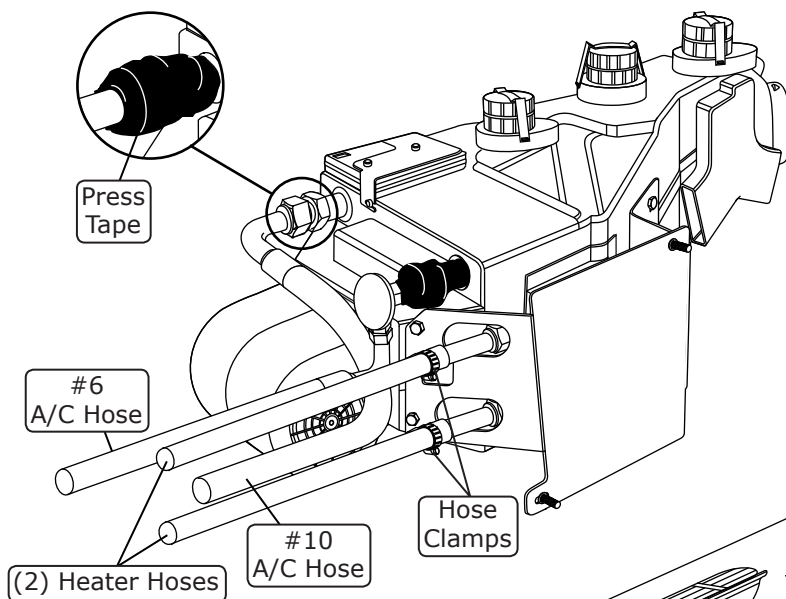
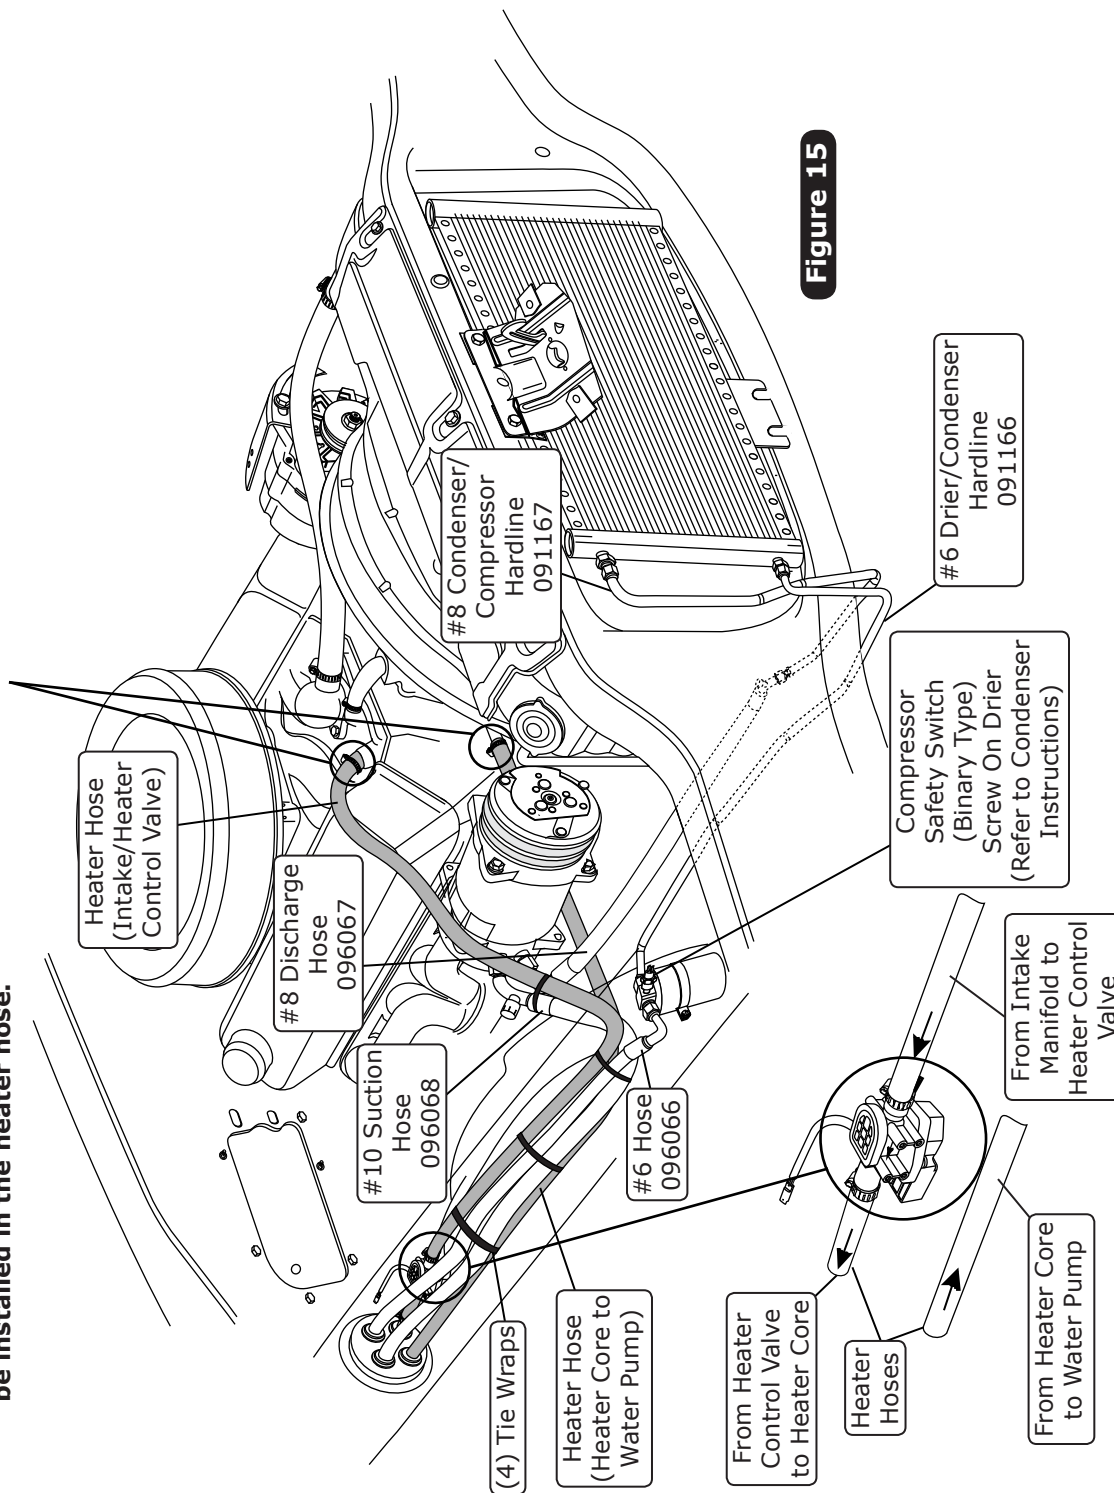

Figure 11
Figure 15
4. Place the evaporator sub case on the passenger side floorboard. Using properly lubricated O-rings, install the A/C hoses onto the evaporator (See Figure 14, Page 13, and Figure 11, Page 12). **NOTE: Wrap the #10 fitting connections with press tape (See Figure 11, Page 12).**
5. Install the heater hoses, securing them with hose clamps (See Figure 11, Page 12).
1. Locate the #8 compressor A/C hose. Lubricate (2) #8 O-rings (See Figure 14, above) and connect the 90° fitting to the #8 discharge port on the compressor. Then route the 45° fitting with 134a service port to the #8 condenser hardline coming through the core support (See Figure 15, Page 14). Tighten each fitting connection as shown in Figure 14, above.
2. Locate the #10 compressor A/C hose. Lubricate (2) #10 O-rings (See Figure 14, above) and connect the 45° fitting with 134a service port to the #10 suction port on the compressor. Then route the 90° fitting to the #10 fitting on the evaporator (See Figure 11, Page 12, and Figure 15, Page 14). Tighten each fitting connection as shown in Figure 14, above.
3. Locate the #6 evaporator A/C hose. Lubricate (2) #6 O-rings (See Figure 14, above) and connect the 90° fitting to the drier. Then route the 90° fitting to the #6 fitting on the evaporator (See Figure 11, Page 12, and Figure 15, Page 14). Tighten each fitting connection as shown in Figure 14, above.
1. Route a piece of heater hose from the water pump to the left heater core fitting as shown in Figure 10, Page 11, and Figure 15, below. Secure using hose clamps.
2. Route a piece of heater hose from the intake to the heater control valve, and from the heater control valve to the right heater core fitting as shown in Figure 10, Page 11, and Figure 15, below. **NOTE: Install the heater control valve in line with the intake manifold (pressure side) heater hose, and secure using hose clamps. Also note proper flow direction.**